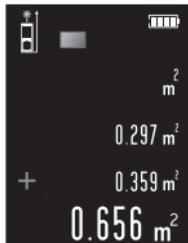

Fig. 3
Step3 – short press button  device calculates the sum and shows in the major display area as Fig. 3